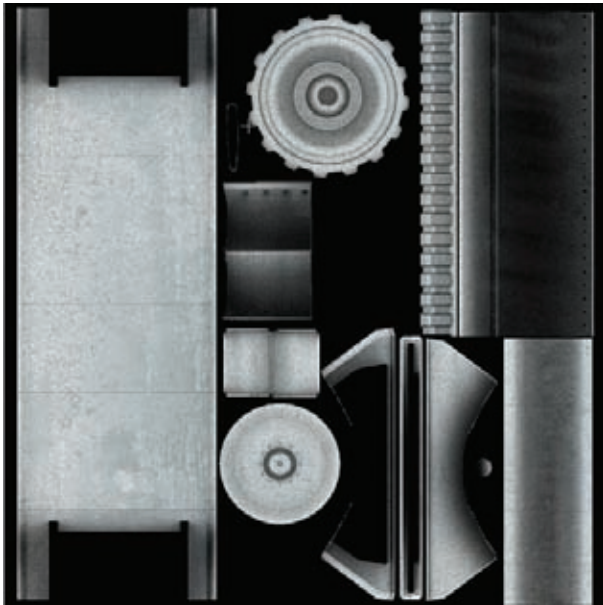

Figure 7.18
5. Adjust the levels of your metal image to make it a bright colored metal—something like what you see in Figure 7.18.